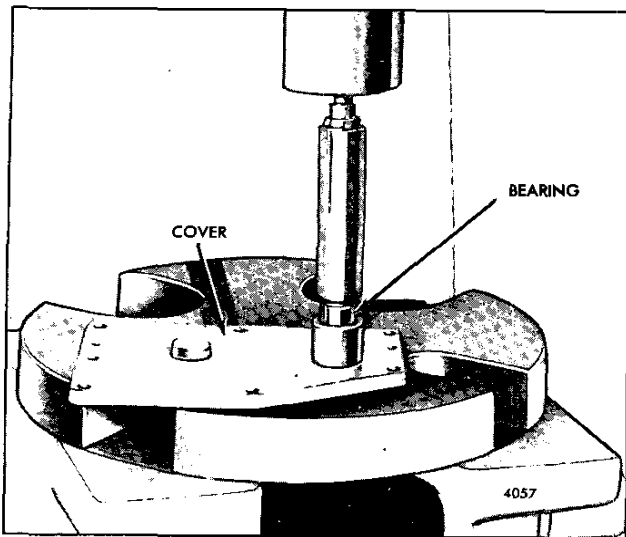

Fig. 13 - Installing Governor Cover Bearings Using Tool J 21068
1. Place the cover, with the inner face down, on the bed of an arbor press. Start a needle bearing straight into the bearing bore of the cover, with the number side of the bearing up. Then, insert bearing installer J 21068 in the bearing and press the bearing in until the shoulder on the tool contacts the cover (Fig. 13).